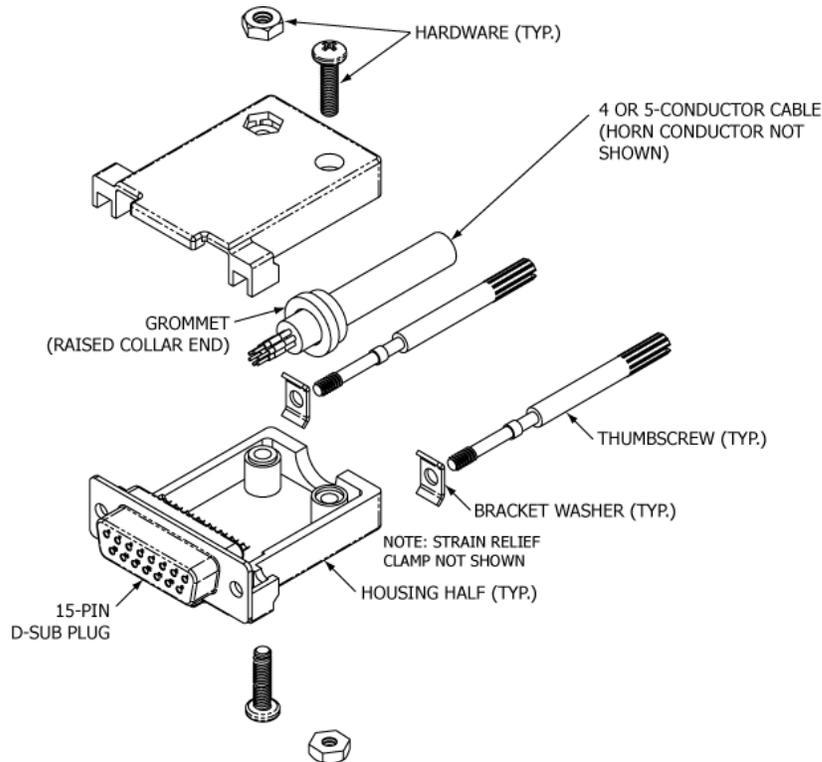

Figure 22 D-Sub Plug Assembly
- 2) Feed the wiring harness, ground wire, and buzzer power wire through the rubber grommet, such that the raised collar end of the grommet fits inside the housing. See Figure 22 D-Sub Plug Assembly on page 57.